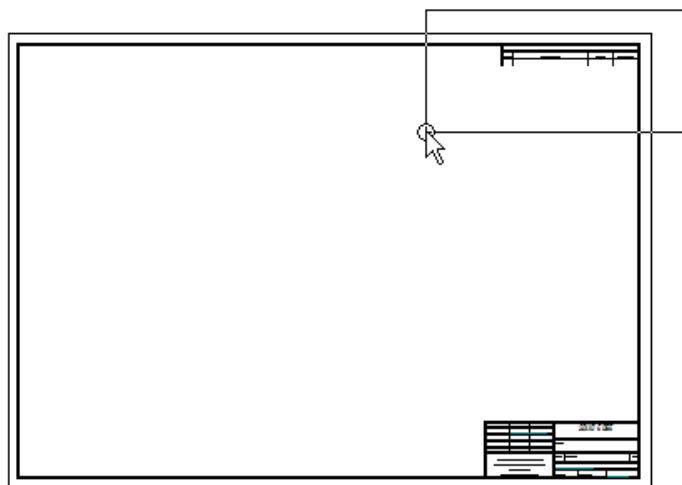

Figure 12-31 Selecting the table
6. Select the top table, as shown in Figure 12-31. All entities in the table turn magenta in color, which indicates that they are selected.